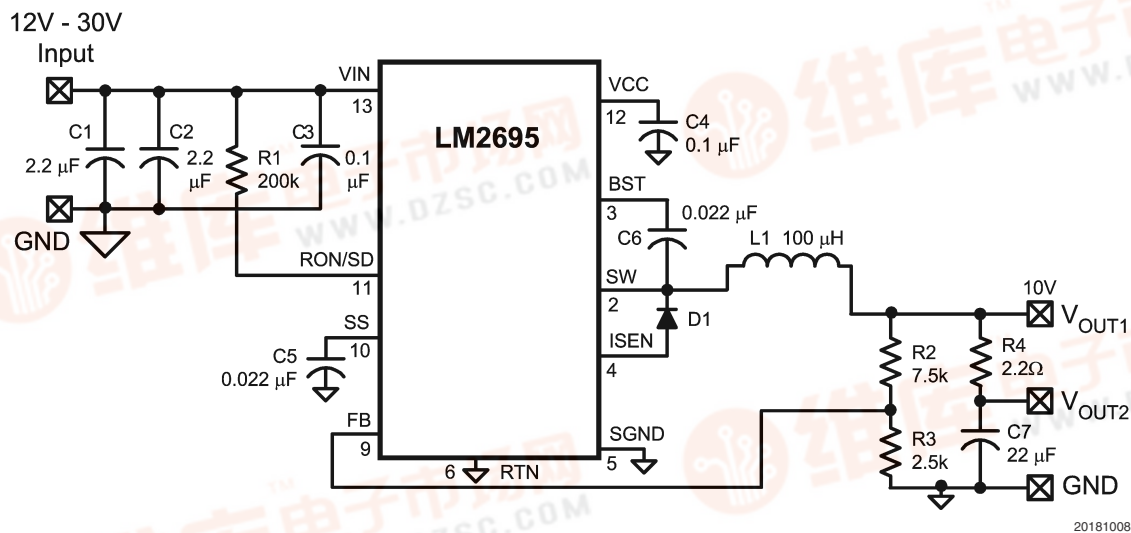

FIGURE 4. Lowest Cost Configuration
C) **Lowest Cost Configuration:** This configuration is the same as option B above, but without C8. Since 25 mVp-p are required at the FB pin, R4 is chosen to generate 100 mV at V_{OUT1} , knowing that the minimum ripple current in this circuit is 50 mA-p-p at minimum V_{IN} . To allow for tolerances, 2.2 Ω is used for R4. The resulting ripple at V_{OUT1} ranges from ≈ 110 mVp-p to ≈ 420 mVp-p over the input voltage range. If the application can tolerate this ripple level, this is the most economical solution. The circuit is shown in Figure 4.